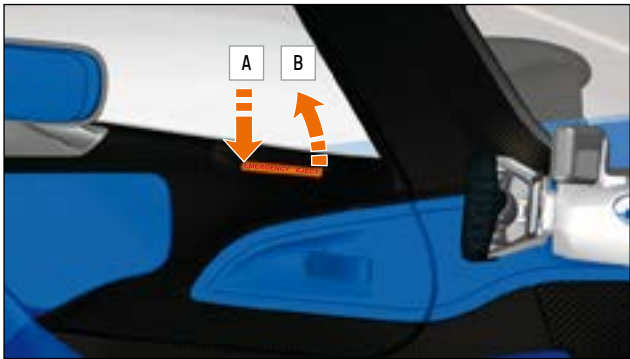

FIG.46 EMERGENCY RELEASE LEVER ON THE DRIVER AND PASSENGER SIDE
1. Depress the lever at rear position A (» Fig.46) to release it. The lever is moved to upper position B (» Fig.46).